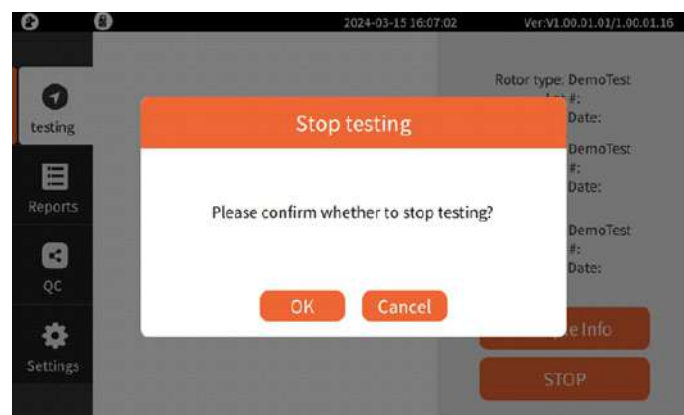

Figure 5-13
- 9) Do not press "Stop" during testing, unless it is in emergency. Click "Stop", it will show a dialog box as Figure 5-13.